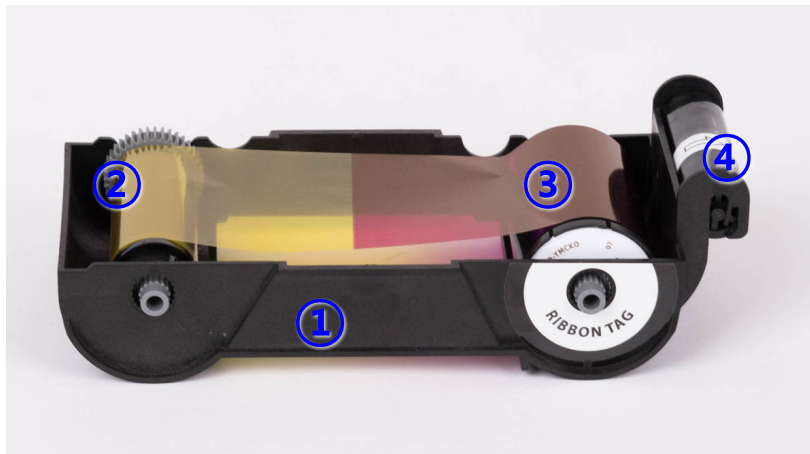

Figure 6 Ribbon cartridge features
① Ribbon cartridge
② ③ Take up & Supply parts
- Ribbon is wrapped to the supply parts as the Picture. It should be installed as the Figure.6
④ Disposable cleaning roller